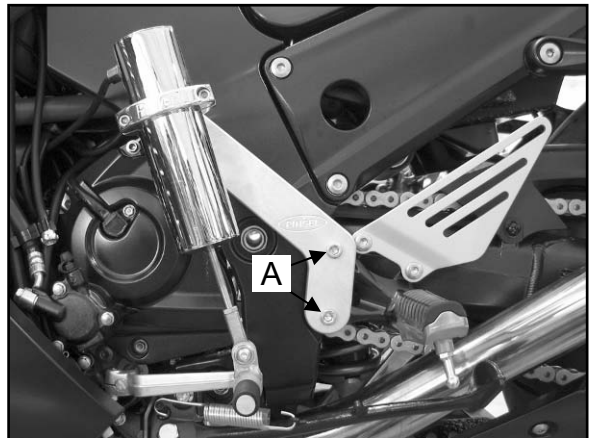
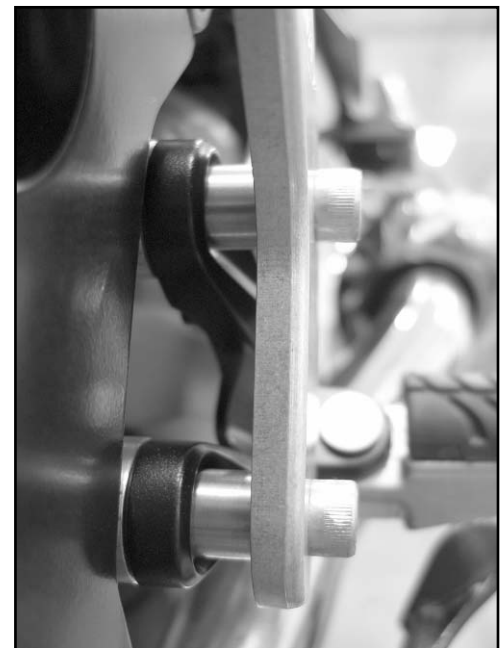

Figure 4
Figure 5
Remove the 2 bolts that hold the left foot peg bracket to frame, (A) in figure 4. Swing the foot peg bracket towards the outside of the motorcycle. Apply the supplied thread locker to the 8mm x 60mm socket head cap screws and insert them through the holes of the shift cylinder support bracket, the step bushings (with the smaller diameter towards the stock footpeg bracket), the holes of the stock footpeg brackets and the .540" thick aluminum spacers and tighten into the stock holes, see figure 5.